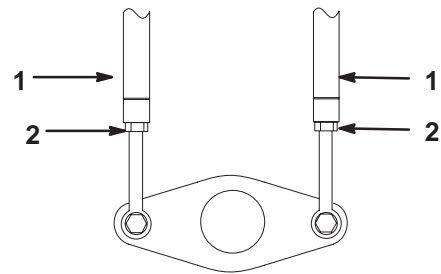

Figure 25
5. Loosen the jam nuts on the traction rods, under the control panel (Fig. 25).